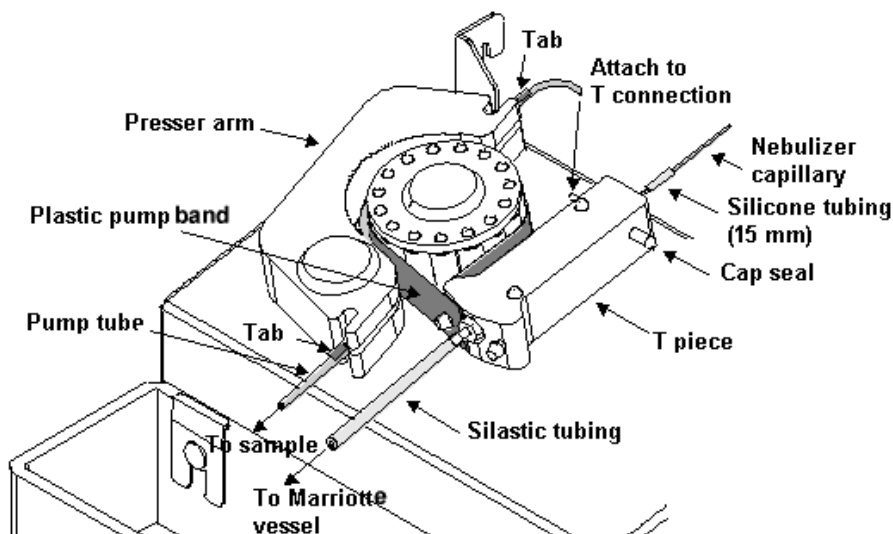

Figure 4 Installing the pump band and tubing on the SIPS 10/20
- 3 Anchor both ends of the band (attaching the right end first) to the small post located on the left side of the T-piece, as shown in Figure 4.
Attach a piece of silastic diluent tubing (supplied with the SIPS) between the barbed tube at the bottom of the T-piece (see Figure 4) and the lid of the Mariotte vessel. Ensure the tubing is long enough to avoid kinks or sharp bends.
Use a 15-mm piece of silicone tubing (1 mm ID) as supplied with the SIPS, to connect the upper end of the T-piece to a length of capillary tubing leading from the nebulizer (as shown in Figure 4). The length of capillary used should be as short as possible. Ensure that there is no gap between the two ends of the tubing.
- 7 Hook the tube into the rear slot in the presser arm using the other orange tab to hold it in place as shown in Figure 4.